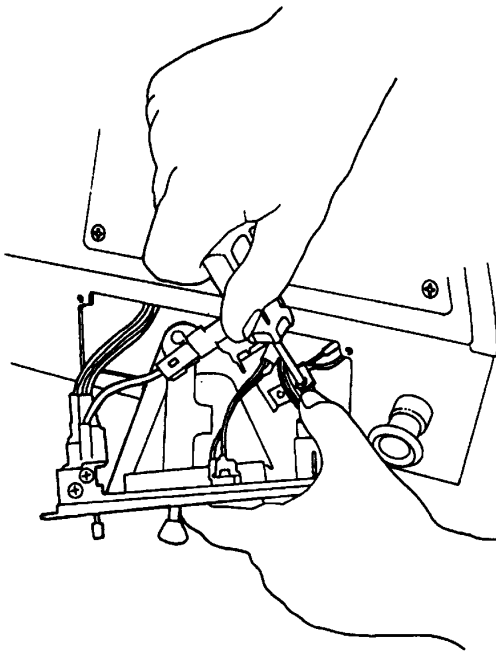

Figure 49 Control Cable End Remove/Install
5. Remove screws securing control cables to control assembly and detach cables from control assembly levers (Figure 49).
1. Attach control cable end to control assembly lever, insert screw and tighten (Figure 49).
7. Remove screw securing HOT-COLD control cable to control assembly (Figure 49).
3. Connect cable end to HOT-COLD cable lever on control assembly (Figure 49).